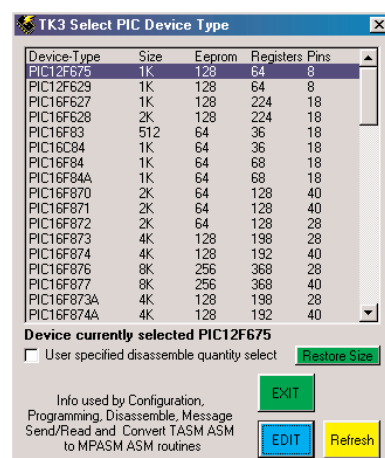

Fig.2. Amended PIC select screen
*TK3* users of version V2.24 must amend their Select PIC Type text file to use 12F629/75 devices, see Fig.2. Click the screen's Edit Button, to load the text file into Windows Notepad, then move the two lines for the 12Fs to the top, inserting them in numerical sequence. Then delete the words "not yet implemented" so that the columns are correctly aligned. Save the file and exit Notepad, then click the Refresh button now revealed. ☐